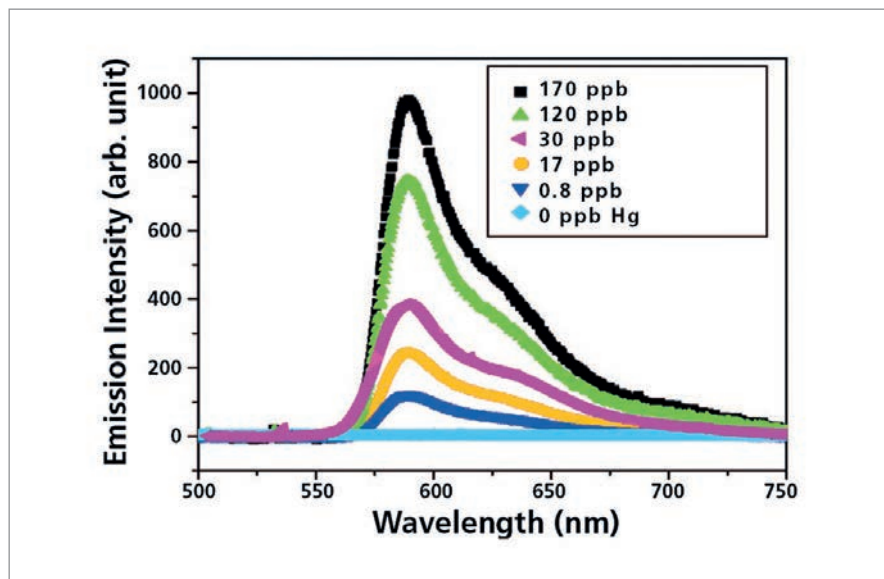

Figure 1: Fluorescence response of RhB adsorbed onto gold nanoparticles increases linearly with concentration of mercury, and is zero in its absence.
Figure 1. EC-MS ion intensity plots of infused naltrexone and electrochemical cell oxidation products using a magic diamond electrode and applied voltage ramp (0-3V in 7 minutes).
We used EC-MS in direct infusion mode to study naltrexone, a potent narcotic antagonist used in maintenance treatment for opiate and alcohol dependence, which is known to degrade by oxidation (9). Figure 1 shows an overlaid ion intensity